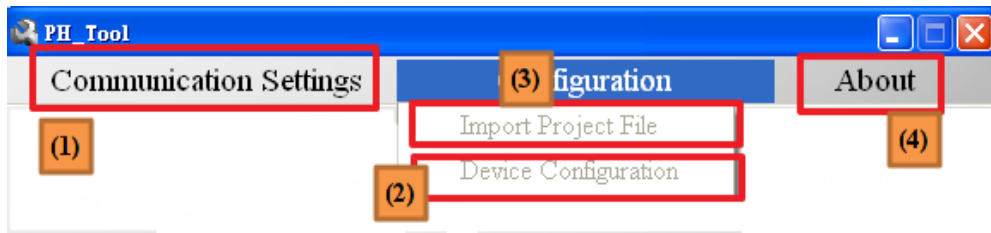

Figure 56 Tools
Tools have 4 parts, they are(1) Communication Settings 、(2) Device Configuration 、(3) Import Project File 、and (4) About, as shown in *Figure 56*.